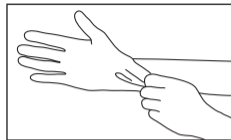

Fig. 7
- 1 Always wear protective gloves, a mask, and protective goggles for safety purposes and to minimize the risk of infection. (Fig. 7)